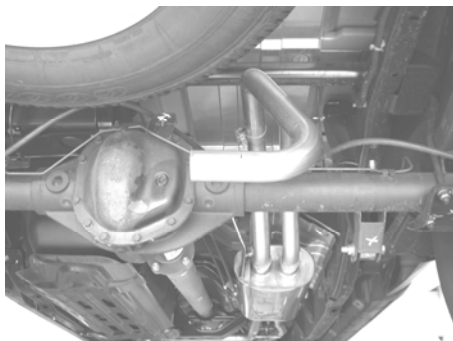

Figure 11
5. Place a clamp over the expanded end of left over axle pipe assembly and set it into position as shown in figure 11. DO NOT tighten the clamp.